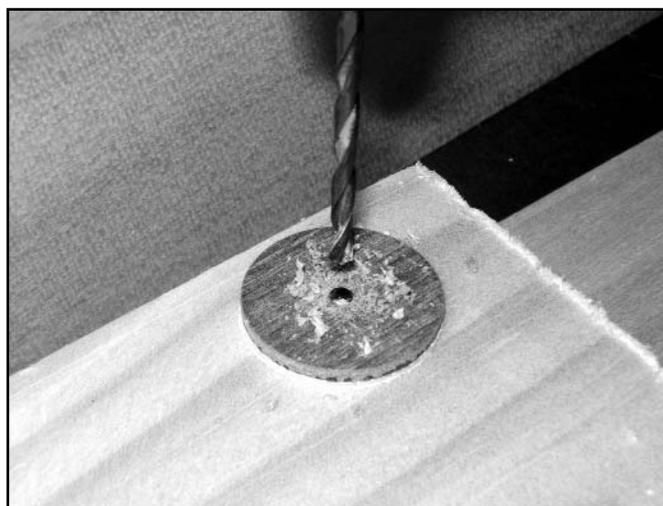

Figure 13 Clearance hole drilled in valve disk.
**Figures 13 through 17** show the preparation and installation of the valves. All of the valve faces are fastened to the fluted valves stems with screws. This made necessary the use of a pilot hole in the stem, and a clearance hole in the valve disk. Because the valve is about one inch away from the pouch, a spacer is needed to take up this distance. I used a ½ inch square piece of balsa wood to keep the spacer light. Through the center of the spacer is drilled a hole so you can get to the screw that holds the valve face to the stem. This spacer is shown in place in figure 17.